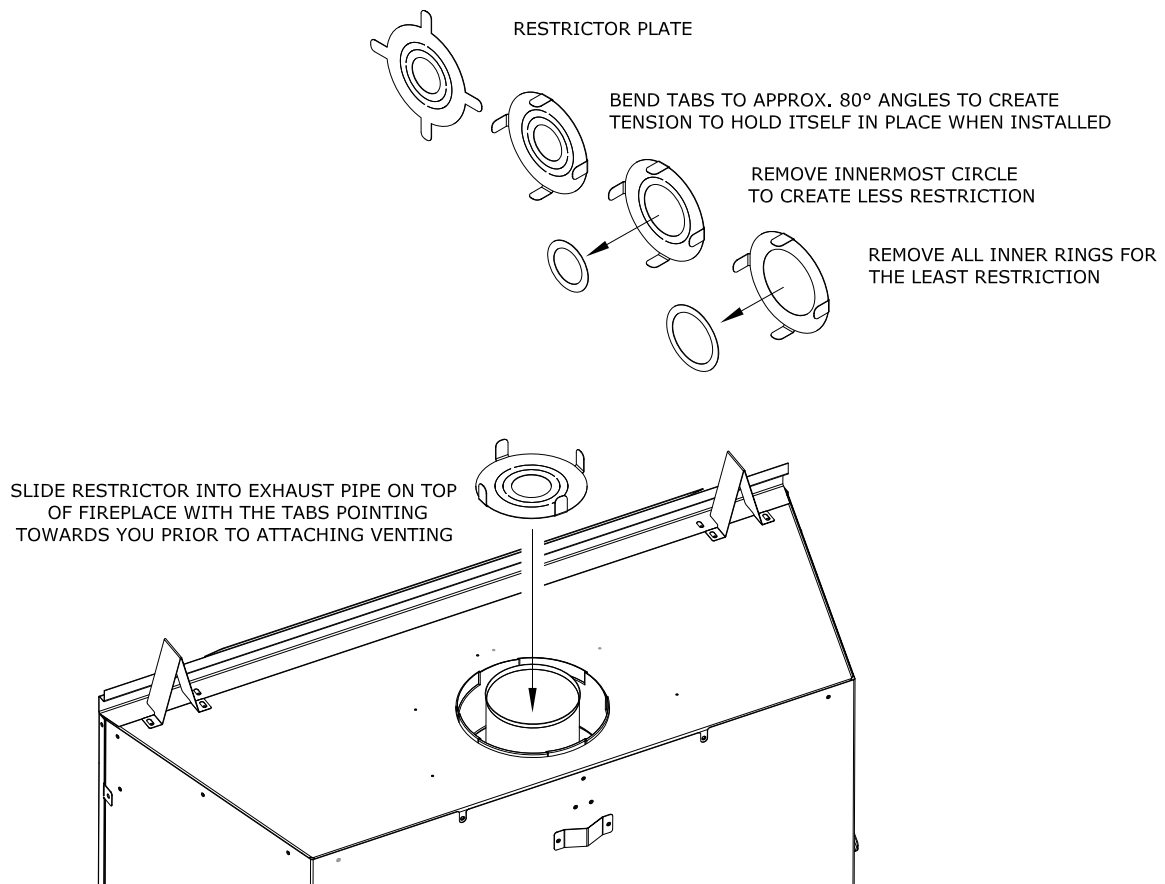

Figure 7.4 - Restrictor Installation
- The restrictor plate is shipped with all inner rings intact, and when installed, provides the most vent restriction. There are (2) inner rings that can be knocked out. As you knock out and remove an inner ring you have less vent restriction where removing both inner rings you will have the least amount of vent restriction.
- Follow FIGURE 7.4 for restrictor plate installation before attaching venting or through the baffle if venting is already attached. For vent restriction plate recommendations and adjustments, see section 12.3.3, Vent Restriction (after installation).